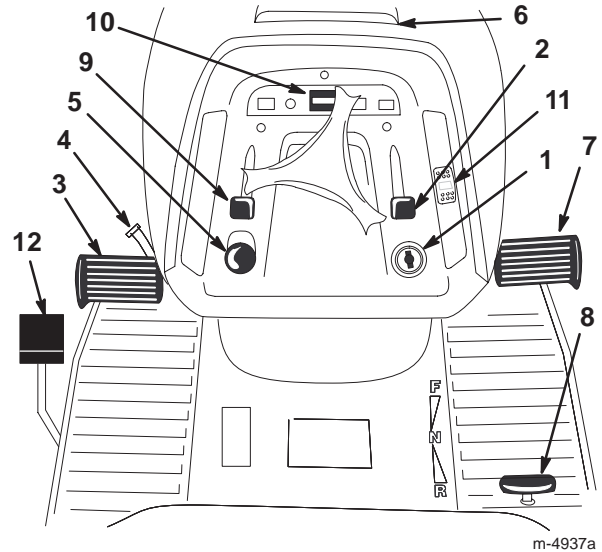

Figure 2
Become familiar with the controls (Fig. 2) before you start the engine and operate the tractor.
1. Push the brake pedal (Fig. 2) down and hold it.
2. Turn the parking brake lever (Fig. 2) counterclockwise and gradually take your foot off the brake pedal.
1. Push down on the brake pedal (Fig. 2).
2. Push the cruise control switch On (Fig. 2).
The hour meter is located on the instrument panel (Fig. 2) and shows the total operating hours of the tractor.